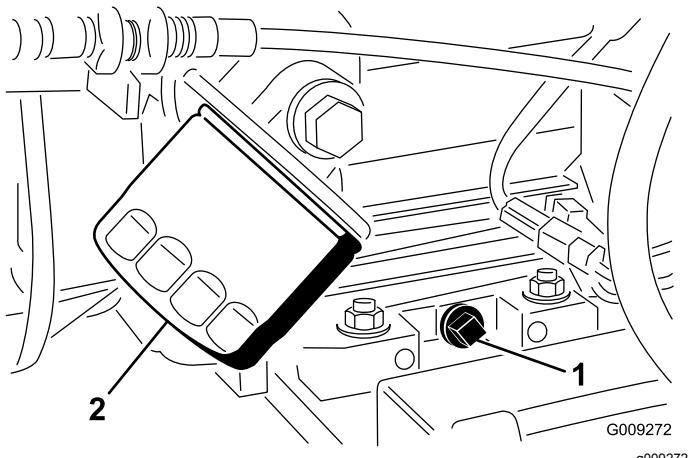

Figure 34
2. Align a large drain pan under the oil-drain plug (Figure 34).
3. Remove the drain plug and let the oil flow into a drain pan (Figure 34).
5. Remove the oil filter from the filter adapter (Figure 34).